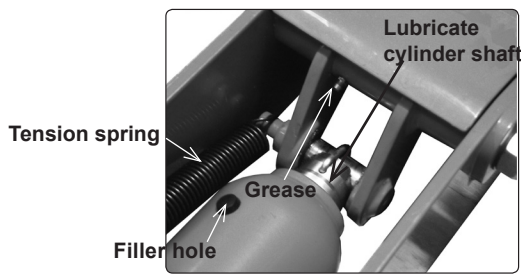
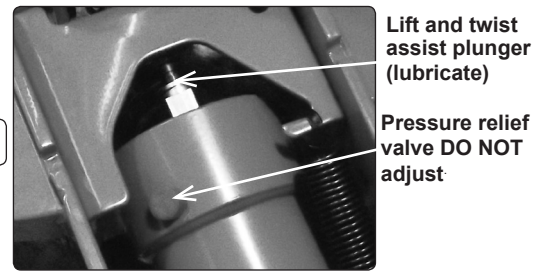

fig.4
fig.5
- 6.2. Keep the jack clean and lubricate all moving parts on a regular basis as in fig.3, fig.4 and fig.5. Smear grease into castor bearings.
- 6.6. To check the jack oil level, fully lower the jack. Remove the cover and jack oil filler plug (fig.4). If the jack oil level is low, fill as required. **DO NOT** over fill. The correct level is just below the bottom of the plug.